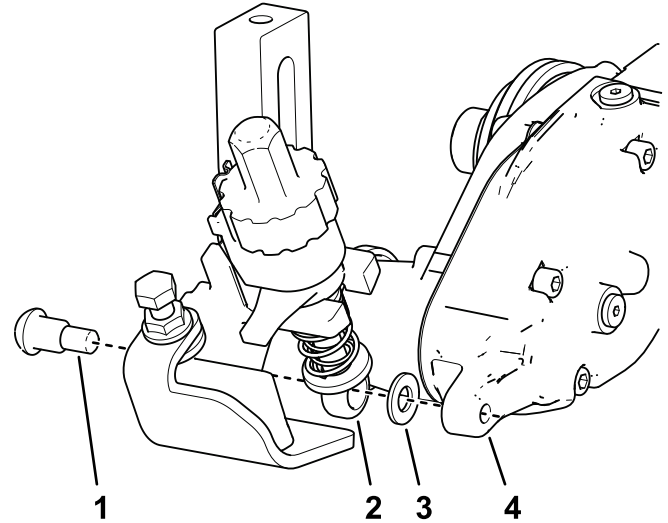

Figure 11
- On the groomer box side, position the adjuster-arm rod of the HOC bracket on the inside of the groomer drive box and secure it with a shoulder bolt and a hardened washer as shown in Figure 11; torque the shoulder bolt to 16 to 22 N·m (12 to 16 ft-lb).